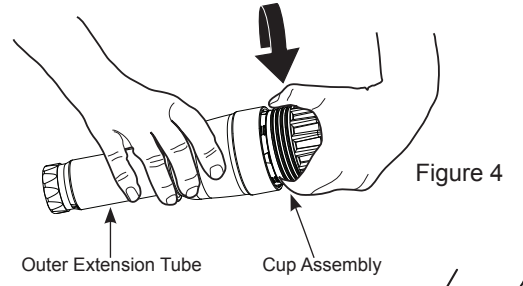

Figure 4
4. Unscrew the outer extension tube from the cup assembly (see Figure 4).